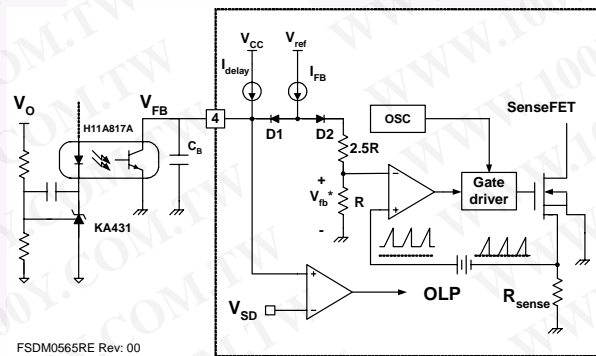

Figure 18. Pulse-Width-Modulation (PWM) Circuit
**2. Feedback Control:** FSDM0x65RE employs current-mode control, as shown in Figure 18. An opto-coupler (such as the H11A817A) and shunt regulator (such as the KA431) are typically used to implement the feedback network. Comparing the feedback voltage with the voltage across the  $R_{sense}$  resistor, plus an offset voltage, makes it possible to control the switching duty cycle. When the reference pin voltage of the shunt regulator exceeds the internal reference voltage of 2.5V, the opto-coupler LED current increases, pulling down the feedback voltage and reducing the duty cycle. This event typically occurs when the input voltage is increased or the output load is decreased.
**2.1 Pulse-by-Pulse Current Limit:** Because current-mode control is employed, the peak current through the SenseFET is limited by the inverting input of PWM comparator ( $V_{FB}^*$ ) as shown in Figure 18. Assuming that the 0.9mA current source flows only through the internal resistor ( $2.5R + R = 2.8k\Omega$ ), the cathode voltage of diode D2 is about 2.5V. Since D1 is blocked when the feedback voltage ( $V_{FB}$ ) exceeds 2.5V, the maximum voltage of the cathode of D2 is clamped at this voltage, thus clamping  $V_{FB}^*$ . Therefore, the peak value of the current through the SenseFET is limited.